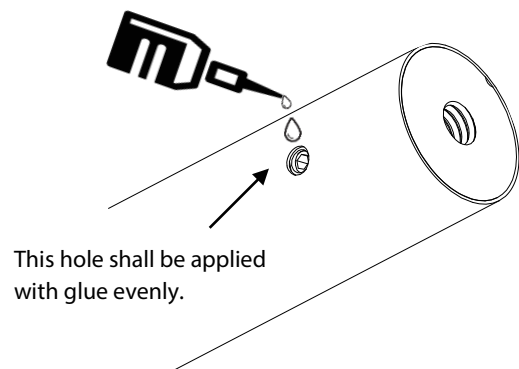

Figure 2-1
1. Using the glue and applying in the hole of the arms as well as the one screw, as shown in figure 2-1. (This is to prevent screws from getting loose due to vibration after being used for a long time.)